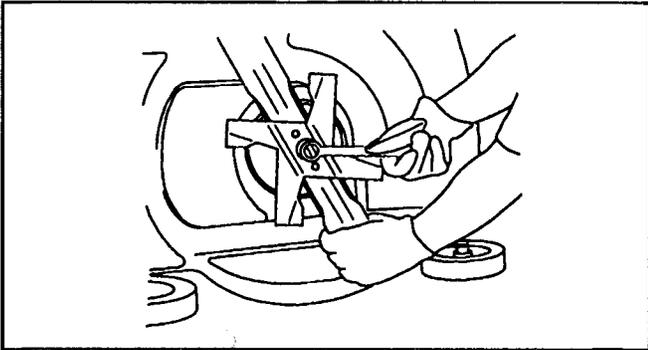

Figure 6
1. Using a 1/2" drive with a 15/16" socket, remove the blade nut that secures both the mulch fan and blade to the engine. Use heavy duty gloves to hold the blade while removing the nut (Figure 6).
3. Re-install the blade and mulch fan with the 15/16" nut. Be sure the small circular bosses on the blade drive collar match the holes in the blade. Tighten the nut to 50 ft lbs (68 N•m) (Figure 6).